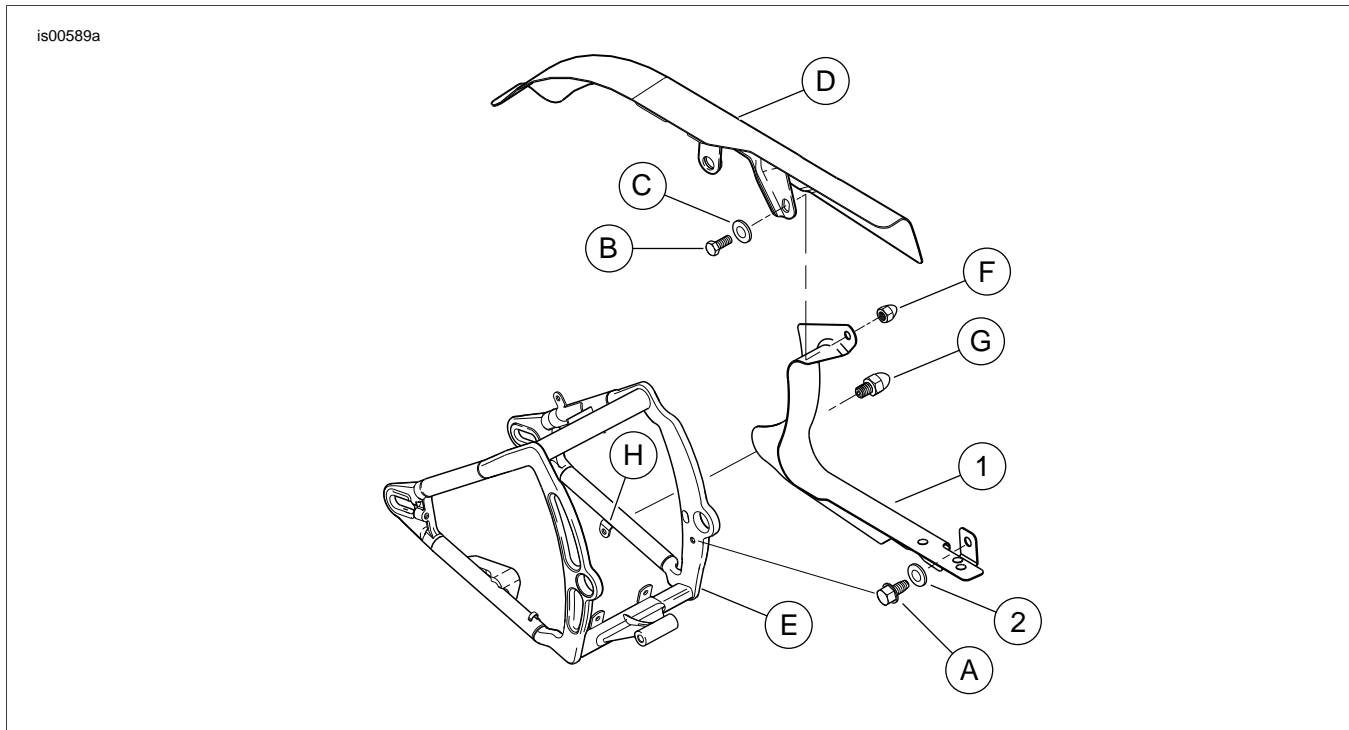

Figure 3. Service Parts: Lower Belt Guard
See Figure 3 and Table 1.
1. See Figure 3 and Table 1. Place lower belt guard (1) into position. Install screw (A) and washer (2) into front mounting hole of lower belt guard (1).
2. Install screw (B) and washer (C) through upper (D) and lower (1) belt guards, and rear fork (E). Install acorn nut (F) securely.
3. Install acorn bolt (G) to lower belt guard and rear fork bracket (H).
4. Tighten screw (A) at front of lower belt guard and rear fork to 84-108 **in-lbs** (9.5-12.2 Nm).